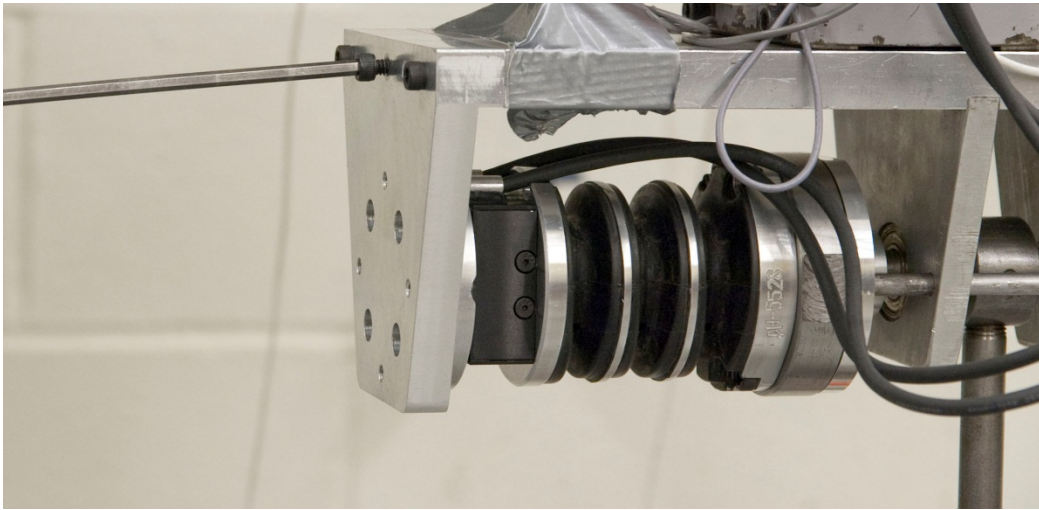

Figure 52. Bolt end plate (upper neck end) to torsion fixture
- Secure the torsion fixture end plate to the top plate assembly using three #10-24 x 1” SHCS (Figure 52). Figure 53 shows the neck fully installed with zero pins in place.